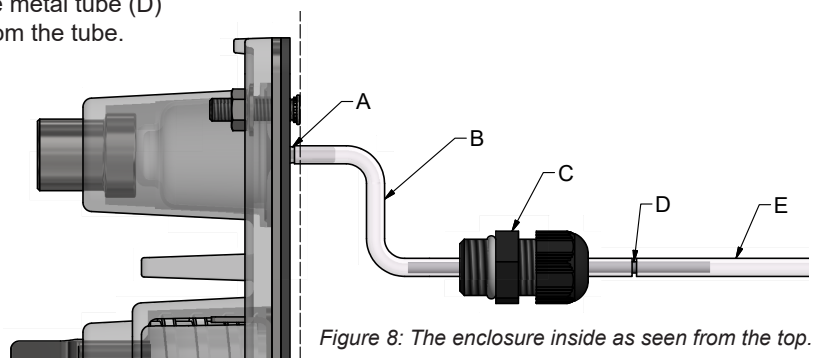

Figure 8: The enclosure inside as seen from the top.
1. Cut a piece of the supplied hose to part 1 of the starter hose (B), not the part, see figure 8.